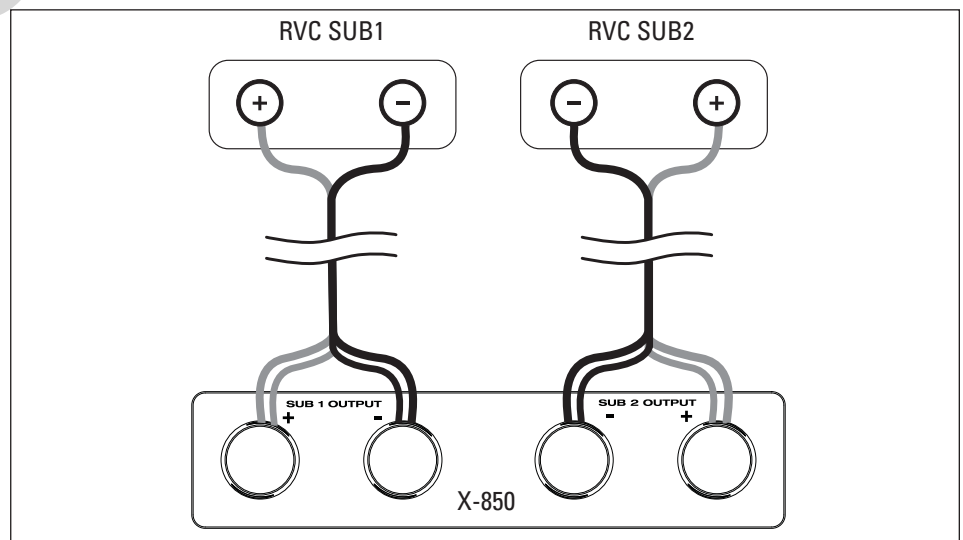

Fig. 6c X-850 Amp / 2 RVC Subs
**Connecting Two RVC Subwoofers** (Fig. 6c): Connect Red (+) speaker cable to positive SUB 1 (+) Output and Black (-) speaker cable to SUB 1 (-) Output. For second subwoofer, connect Red (+) speaker cable to positive SUB 2 (+) Output and Black (-) speaker cable to SUB 2 (-) Output.